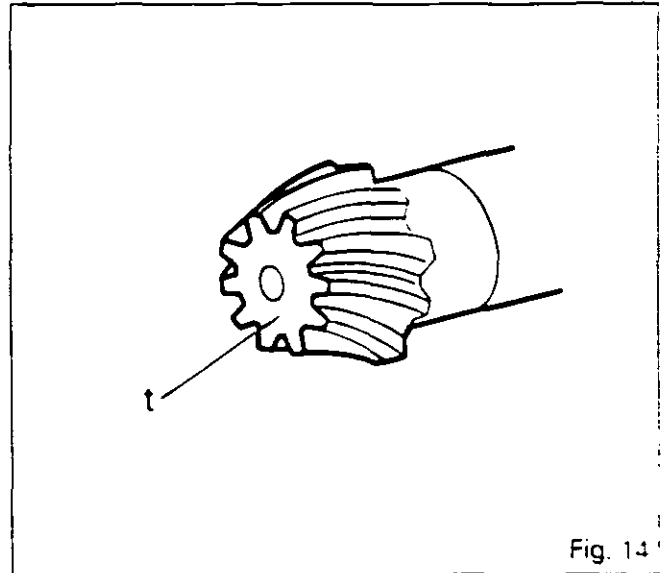

Fig. 14
**t** : actual dimension marked on the head of the bevel drive pinion (Fig. 14). This value may be positive or negative (to be added or subtracted from nominal dimension **d**).